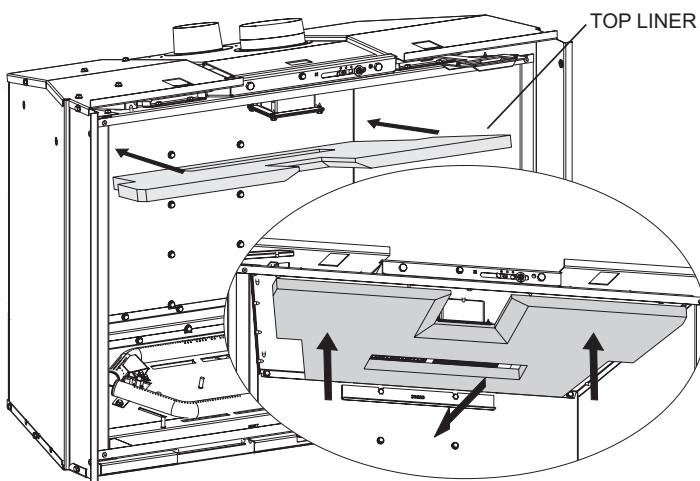

Figure 4
5. Place top ceramic fiber top liner above rear liner bracket with smooth side down. Position ceramic fiber top liner around light. Hold liner in place. See Figure 4.